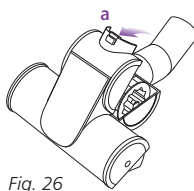

Fig. 26
- 1 Slide the locking latch (a) forward and gently tilt brush housing upward to open. (Fig. 26)